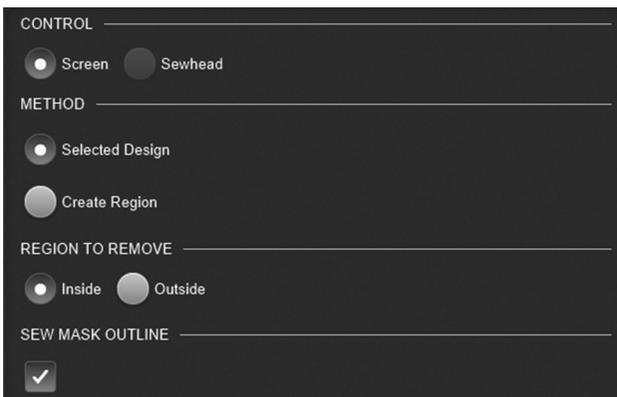

Fig. 17
5. Select the following settings (Fig. 17):